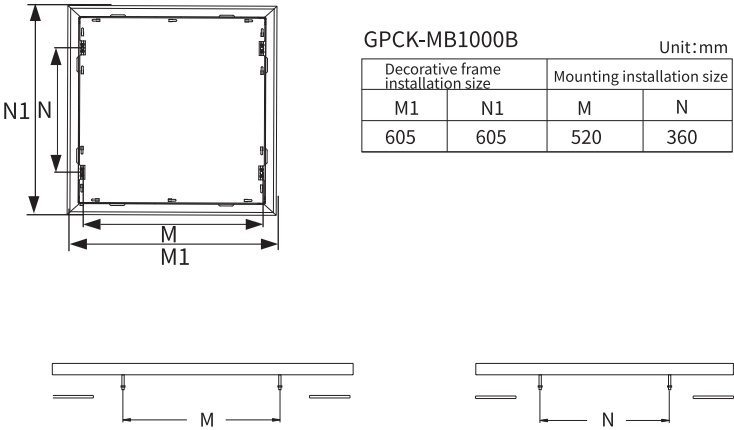

figure 3
2. Ensure the security distance M、N according to the figure3 and the model of table. Install the brackets to the roof via the screws, figure4.